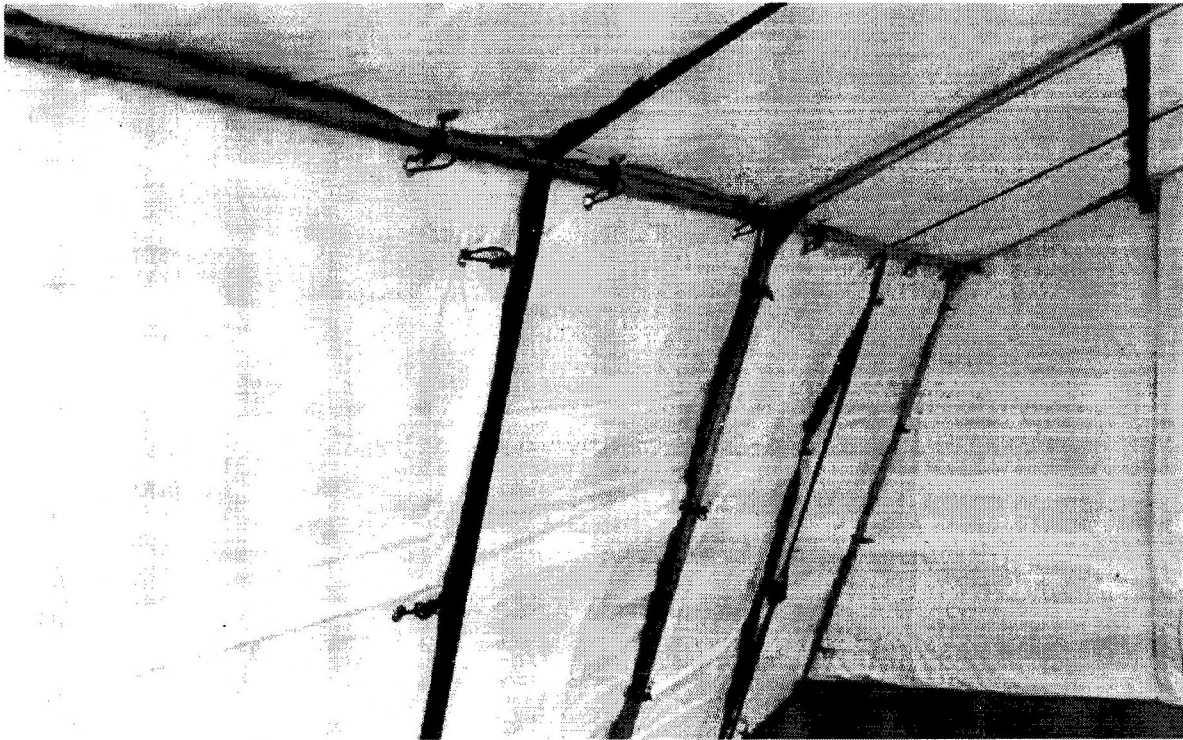

Figure 46: Wall insulation panel (Typical arrangement)
46. Fit and secure the roof insulation support straps ensuring that loose ends are tidied away Fig 46.
49. Raise one side of the shelter and attach the outer component. Working from inside, tighten the uppermost tensioners and ensure that all panels overlap correctly. Raise the other side of the shelter and attach the remaining end wall component insulation panels at each end. Viewed from the outside the outer 2 end wall panels must overlap the centre two Fig 46.
50. Attach the insulation panel walls (qty 4 per side) with the tensioners, loosely at first, Working from the inside ensure that all panels are fitted correctly before tightening the tensioners fully Fig 46. The insulation roof panel must overlap the top of the wall panels on the canvas side. Viewed from the outside the end wall panels should overlap the inner 2 panels.